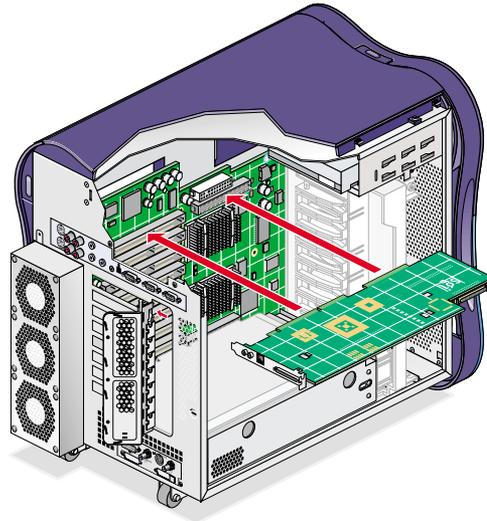

Figure 3-19 Installing the IO9 Board
1. Align the IO9 board with PCI slot 1 on Bus 1. Then lower the IO9 board into the enclosure. Press straight down to seat the board in the PCI connector on the interface board (see Figure 3-19).